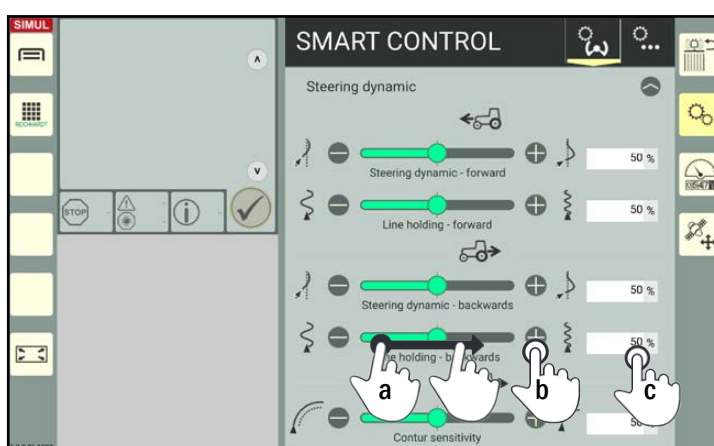

Fig. 323: Changing the values
- Entering them in the white boxes to the right (see Fig. 323).